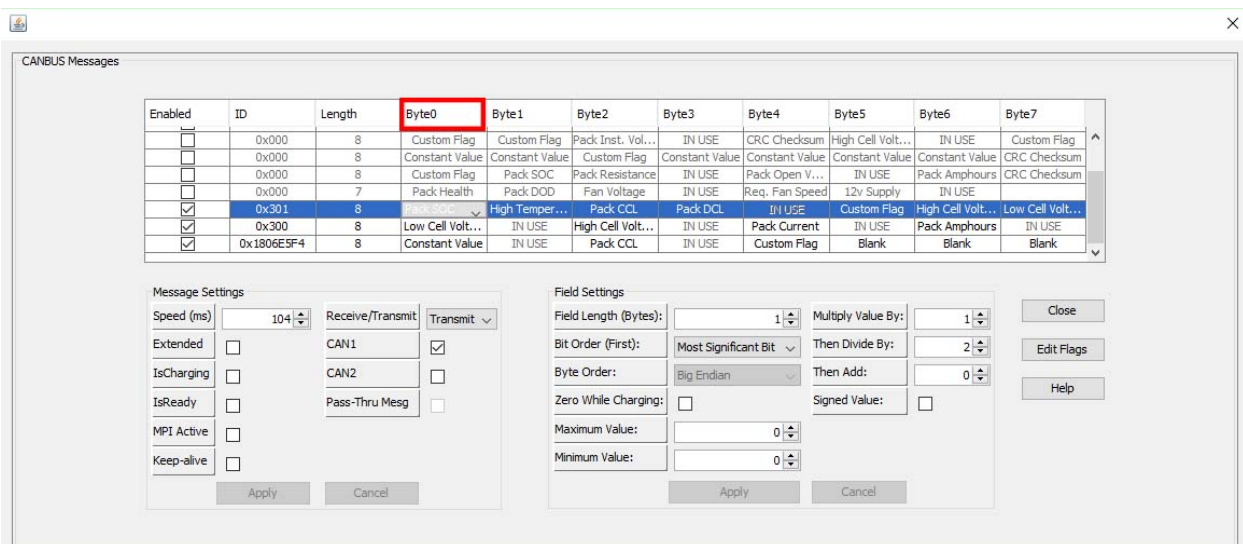
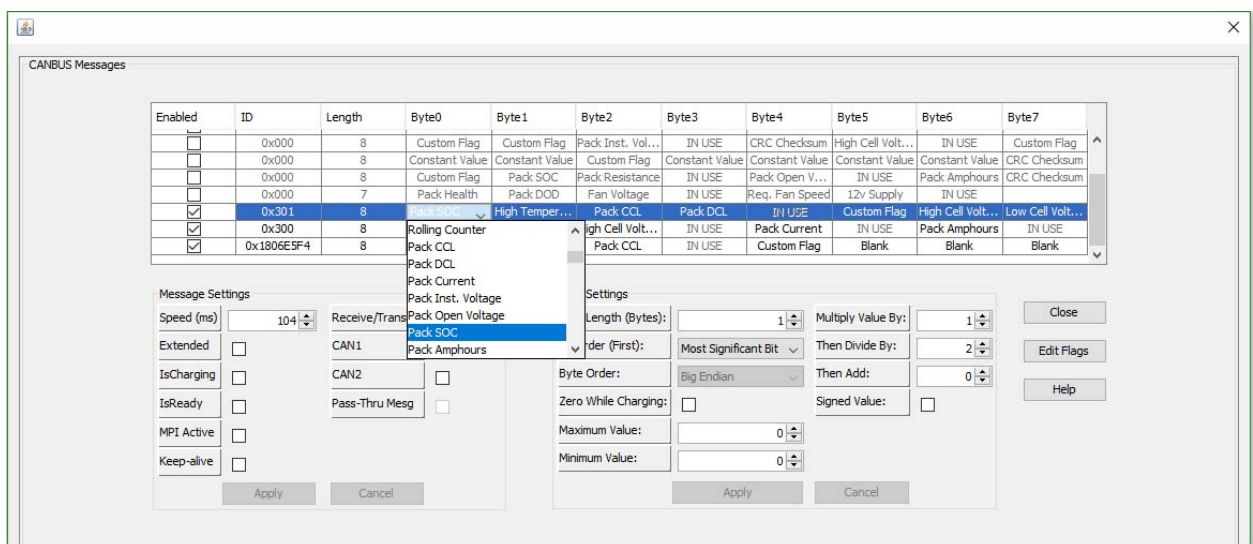

Fig. 18
Fig. 19
2. The following is the settings for **Pack SOC**. The Byte used is Byte0 in message 0x301. In the dropdown menu for Byte0 make sure that **Pack SOC** is selected. (Fig. 18 Fig. 19)